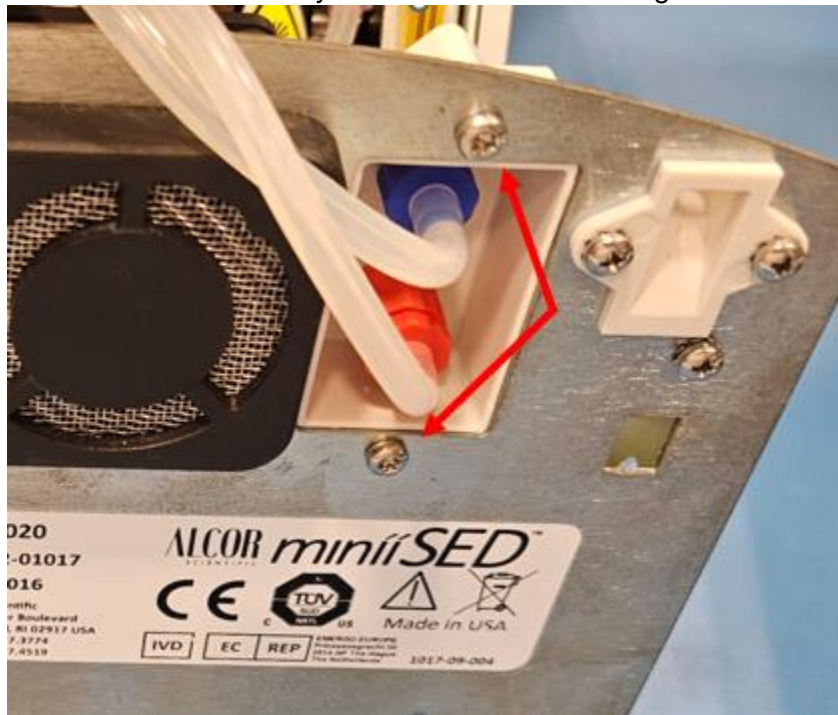

Figure 11
2.10. Remove 2 screws from the Hydraulic Recess Panel. Figure 11.
9.2. Reattach Hydraulic Recess panel and Back Panel per Figures 11 and 12.